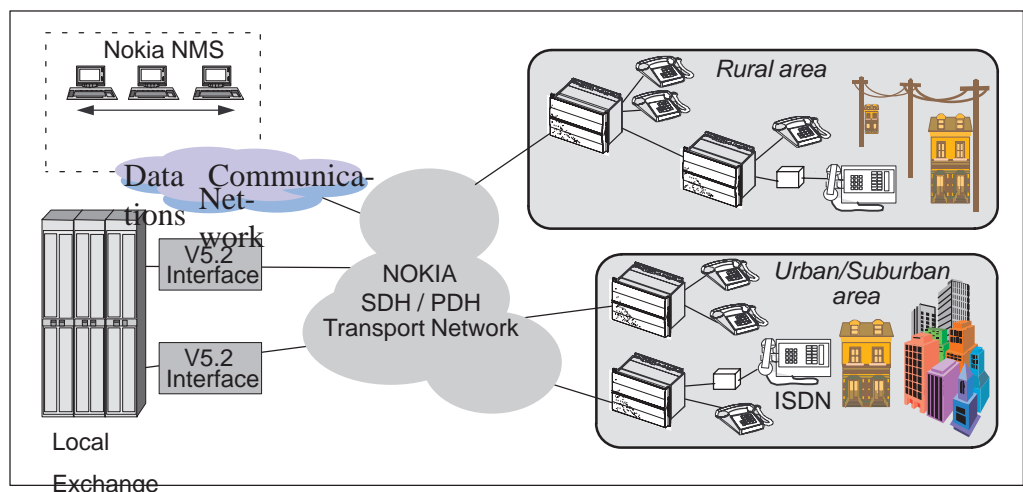

Figure 11 Typical application of Eksos N20 system
The Eksos N20 node connects basic PSTN/ISDN users to the local exchange (LE) through the ETSI standard V5.2 interface, as shown in Figure 11. Conversion from V5.1 to V5.2 interface is supported, and this provides an effective growth path, via V5.2 interfaces, to those parts of the network that were originally built with V5.1.